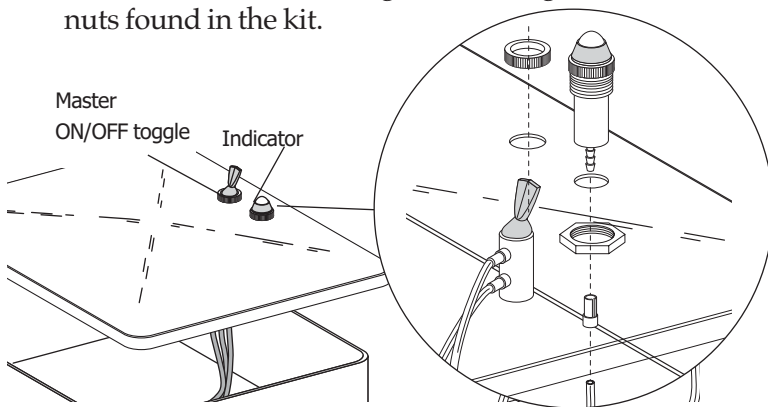

Figure 18
7. Secure the master ON/OFF toggle and indicator to the floor box cover (see Figure 18) using the knurl nuts found in the kit.